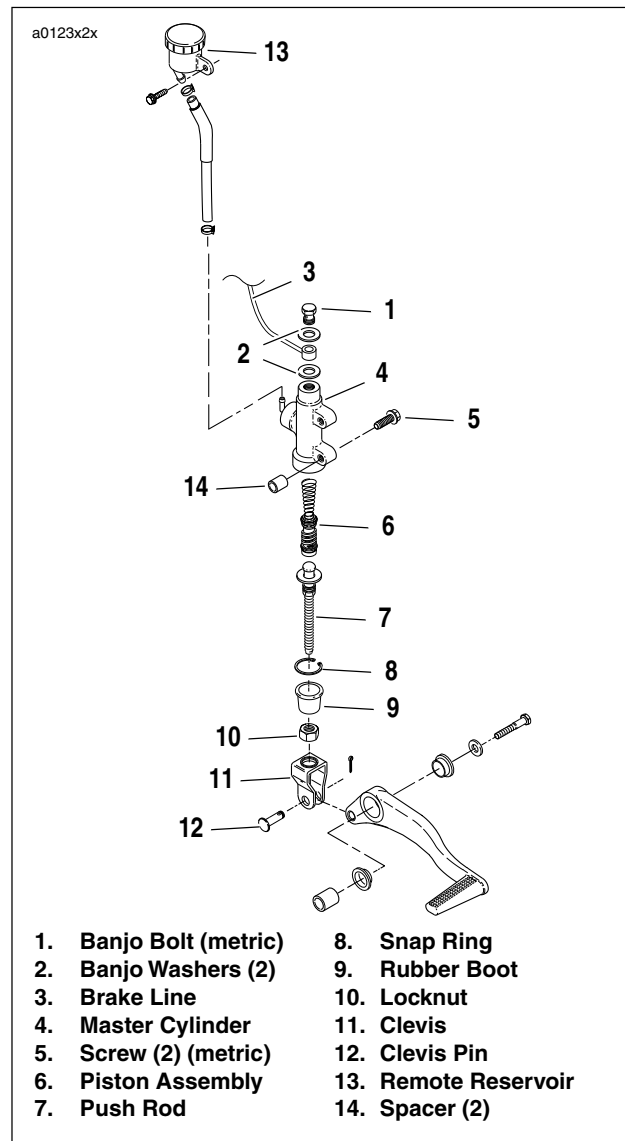

Figure 2-43. Rear Master Cylinder Assembly
2. See Figure 2-43. Remove banjo bolt (1) (metric) and two banjo washers (2) to detach brake line (3) from master cylinder (4). Discard banjo washers.
3. See Figure 2-43. Disconnect push rod from brake pedal clevis (11).
- a. Spin locknut (10) away from top surface of clevis.
- b. Turn rod adjuster (7) to free rod from clevis (11).
3. See Figure 2-43. Connect brake line (3) to master cylinder (4) with two **new** banjo washers (2) and banjo bolt (1) (metric). Tighten to 16-20 ft-lbs (22-27 Nm).